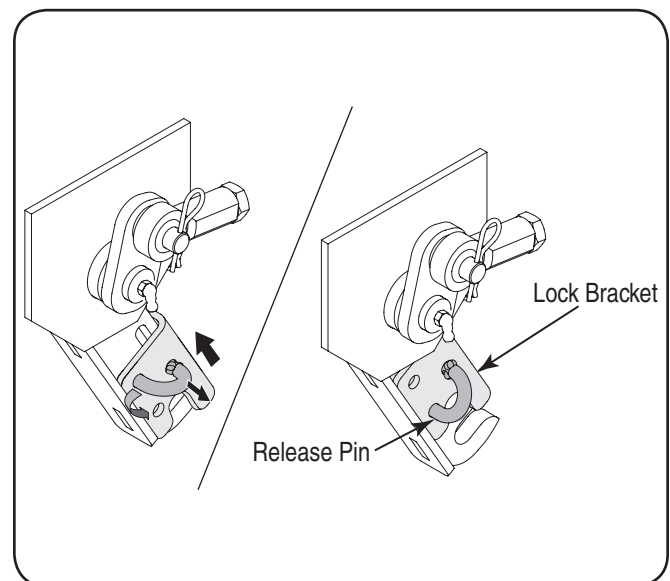

Figure 12
- From the right side of the tractor, pull the release pin of the rear lift arm assembly out of the upper hole in the lock bracket; then slightly pivot the pin so that it is held outward against the side of the lock bracket. Refer to Figure 12.
- Slide the lock bracket up the lift arm until the lower hole in the lock bracket aligns with the pin hole in the lift arm. Pivot the release pin down to the lower hole and release so that the pin goes through the lock bracket and lift arm to fix the lock bracket in the raised (unlocked) position. See Figure 12.
- From either side of the tractor, pull the release pin of the rear lift arm assembly out of the upper hole in the lock bracket; then slightly pivot the pin so that it is held outward against the side of the lock bracket. Refer to Figure 12.